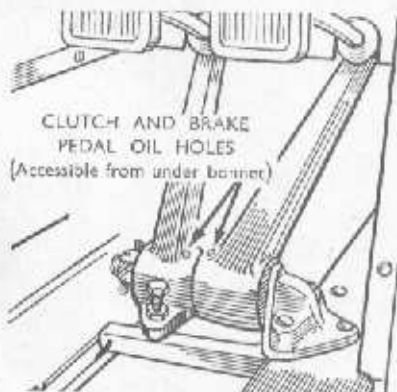

Fig. 9. Clutch and brake pedal bearing oil holes.
4. Lubricate Controls. Inject a few drops of engine oil to the clutch pedal and footbrake pedal bearings (from under the bonnet—Fig. 9), and to the handbrake lever pivot bearing. Apply a few drops of oil to the handbrake cable and rod joints.